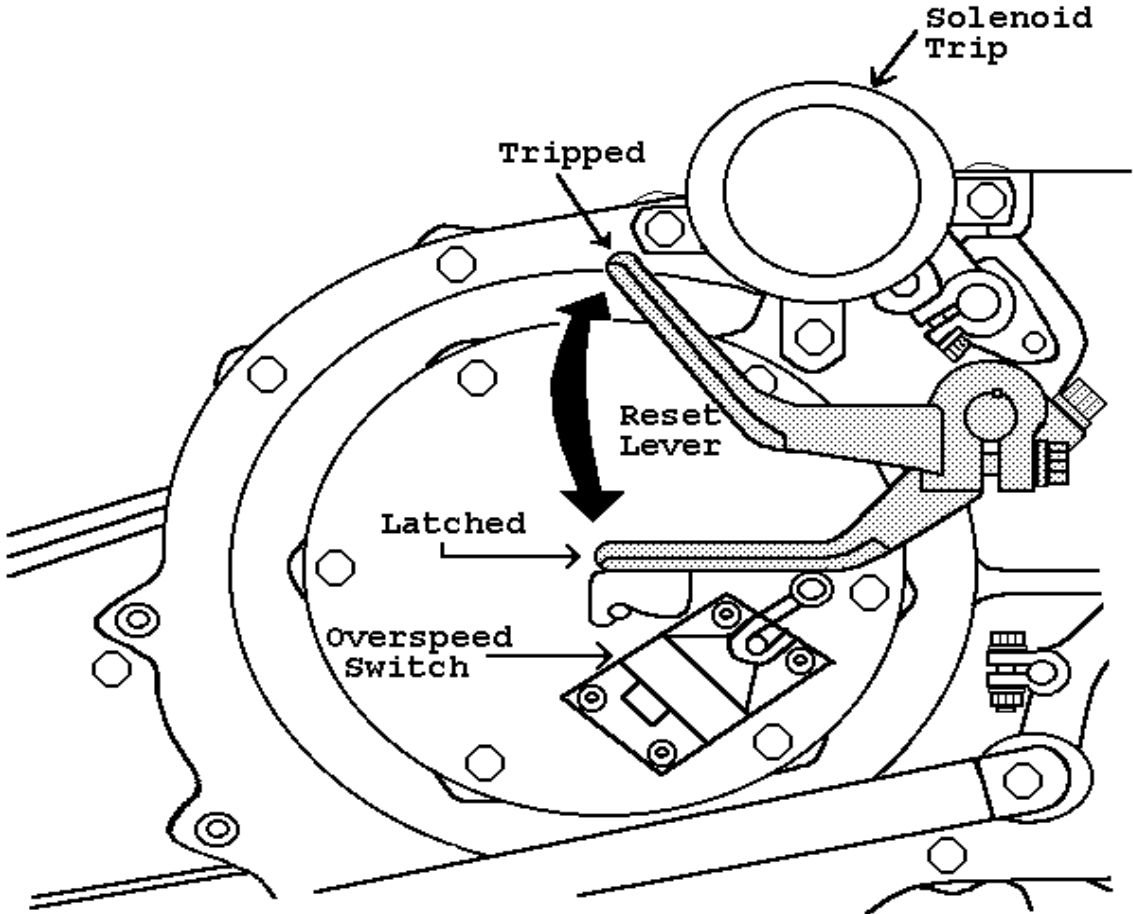

FIGURE 2
*** 8.4.5.1 At the 16 (12) cylinder engine, reset the trip mechanism by pulling down (counter-clockwise rotation) strongly on the Reset Lever until it latches. (Refer to Figures 2 & 3)**
Comments Do not allow the student to climb on the diesel. When the student locates the Over Speed Device, have the student describe the required actions using figures 2 & 3 from the procedure.
At the 12 (16) cylinder engine, reset the trip mechanism by pulling down (counter-clockwise rotation) strongly on the Reset Lever until it latches. (Refer to Figures 2 & 3)